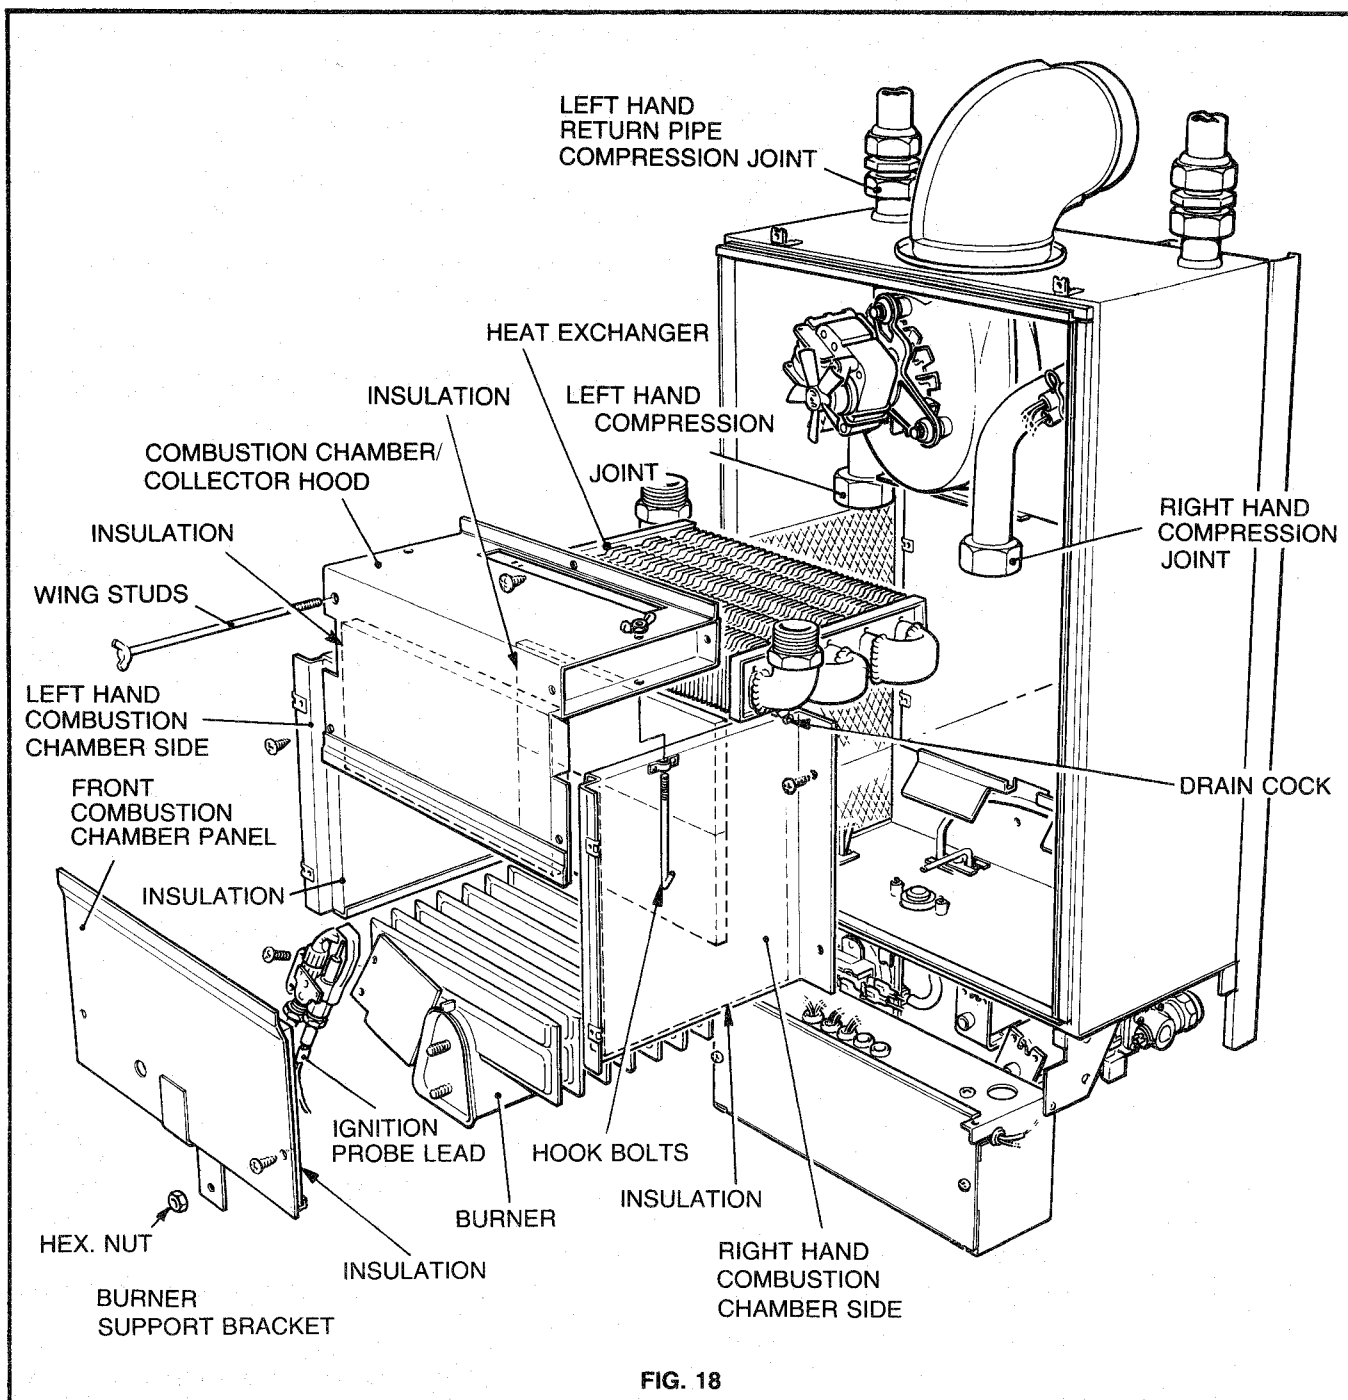

FIG. 18
7.2 REMOVE AND CLEAN THE MAIN BURNER AND PILOT BURNER ASSEMBLY (Figs. 18 and 23)
7.4 INSPECT AND CLEAN THE HEAT EXCHANGER (Fig. 18)